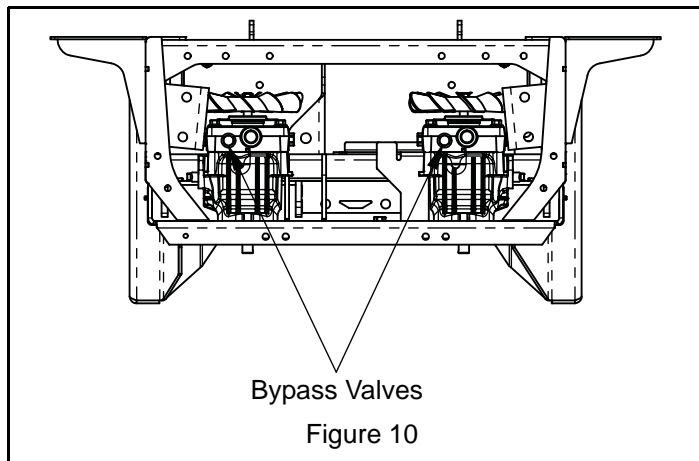

Figure 10
**IMPORTANT:** The bypass valves must be opened two full turns (maximum) before the unit is moved (see figure 10). Be sure the bypass valves are closed before running the mower again. Failure to fully close the bypass valves before operation could result in hydraulic system damage.